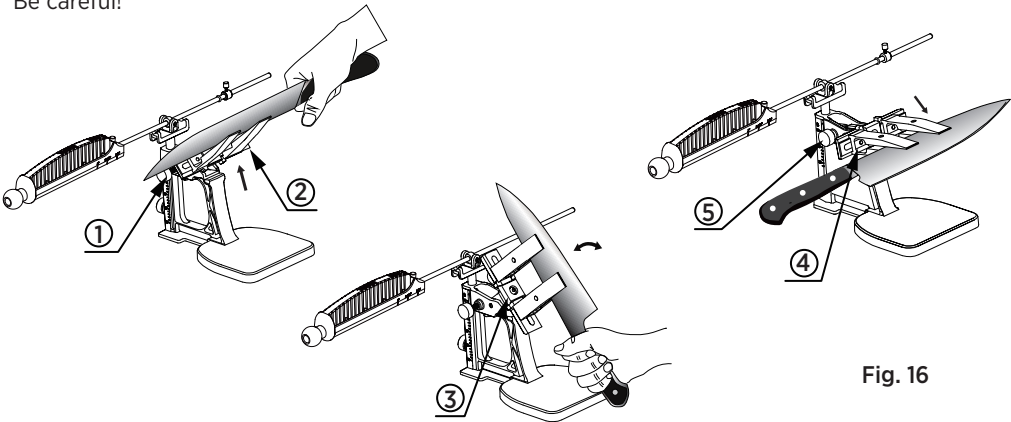

Fig. 16
- 3. Continue sharpening until you feel a burr along the entire edge on the opposite side of the blade. Loosen the flip knob, raise the rotary beam, and carefully rotate it 180° to switch to the opposite side of the blade. Hold the knife handle for better control during this step. Once the adjustment is complete, tighten the flip knob securely (See Fig. 16).